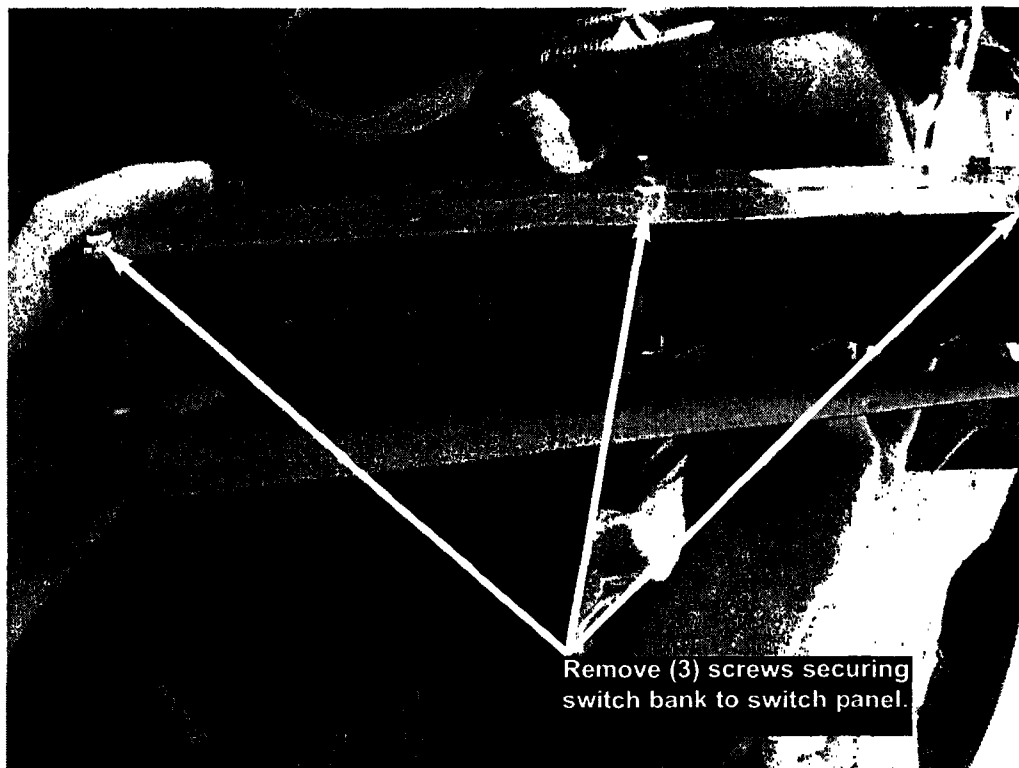

Figure 2
4. Remove Switch Bank from Switch Panel. Retain fasteners. Fig. 2